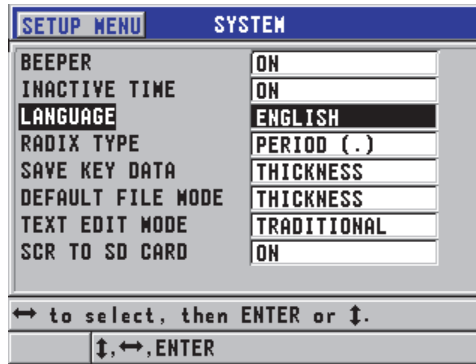

Figure 4-1 The SYSTEM screen
2. In the **SYSTEM** screen (see Figure 4-1 on page 44):